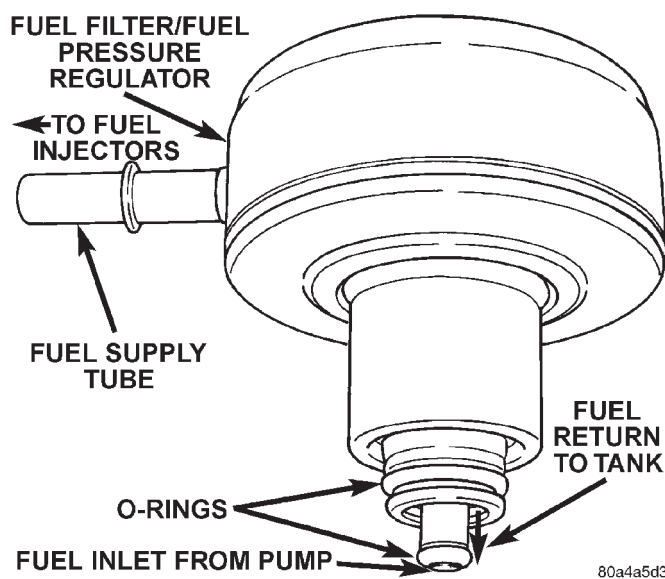

Fig. 24 Fuel Filter/Fuel Pressure Regulator O-Rings INSTALLATION
- (7) Before discarding filter/regulator assembly, inspect assembly to verify that o-rings (Fig. 24) are intact. If the smallest of the two o-rings can not be found on bottom of filter/regulator, it may be necessary to remove it from the fuel inlet passage in fuel pump module.